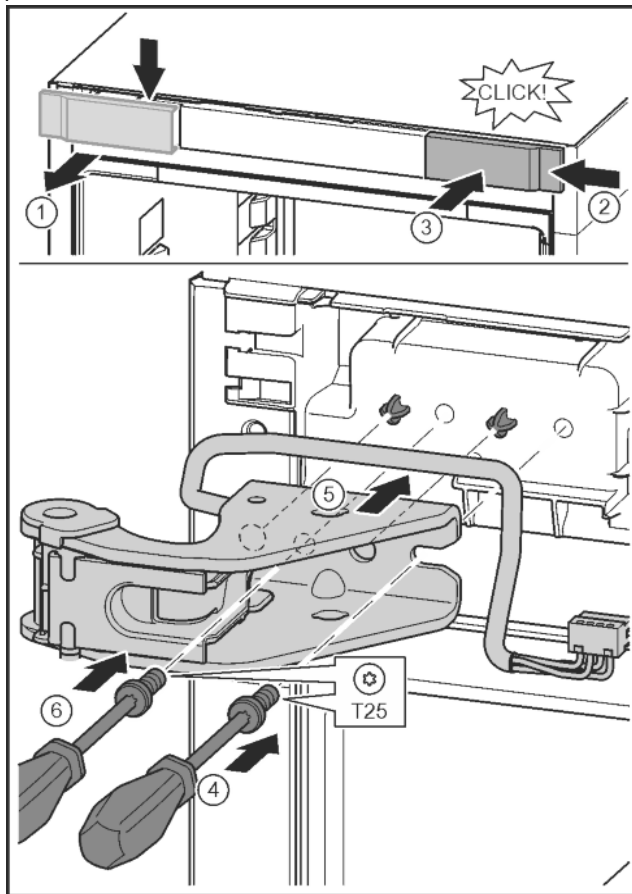

Fig. 27
- ▶ Release the cover and remove from the side. Fig. 27 (1)
- ▶ Rotate the cover 180° and clip onto the other side from the right. Fig. 27 (2)
- ▶ Click the cover into place. Fig. 27 (3)
- ▶ Position the screw with a T25 screwdriver. Fig. 27 (4)
- ▶ Position the upper bearing bracket. Fig. 27 (5)
- ▶ Tighten the screw. Fig. 27 (4)
- ▶ Insert the screw with a T25 screwdriver and tighten. Fig. 27 (6)